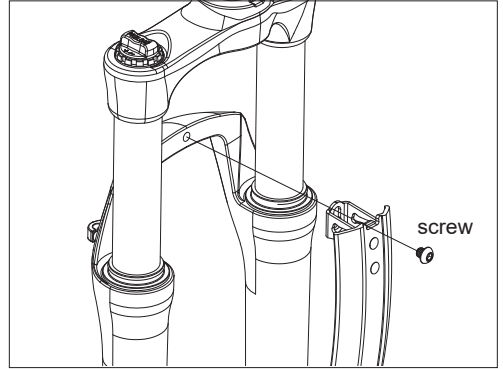
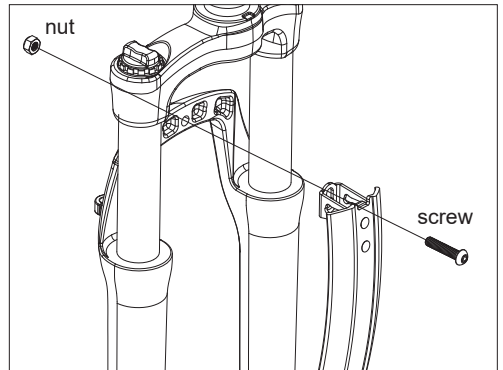

Fig. 17: Fender installation on mountain bike with threaded fork mount.
Fig. 18: Fender installation on mountain bike with non-threaded fork mount.
1. Remove the screw from the rear of the front fork. Some forks allow the screw to thread directly into the fork crown (Fig. 17), while some pass through to a nut on the front of the fork (Fig. 18).
2. Position the Fender on the back side of the fork and reinstall the bolt so that it passes through the slotted fender mount. Tighten it into the fork (Fig. 17), or the nut on the front of the fork if applicable (Fig. 18).